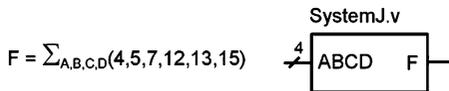

Fig. 5.2
- 5.2.3** Design a Verilog model to implement the behavior described by the 4-input minterm list in Fig. 5.2. Use procedural assignment and an if-else statement. Declare the module to match the block diagram provided. Use the type wire for the inputs and type reg for the output.
- 5.2.4** Design a Verilog model to implement the behavior described by the 4-input minterm list in Fig. 5.2. Use procedural assignment and a case statement. Declare the module to match the block diagram provided. Use the type wire for the inputs and type reg for the output.